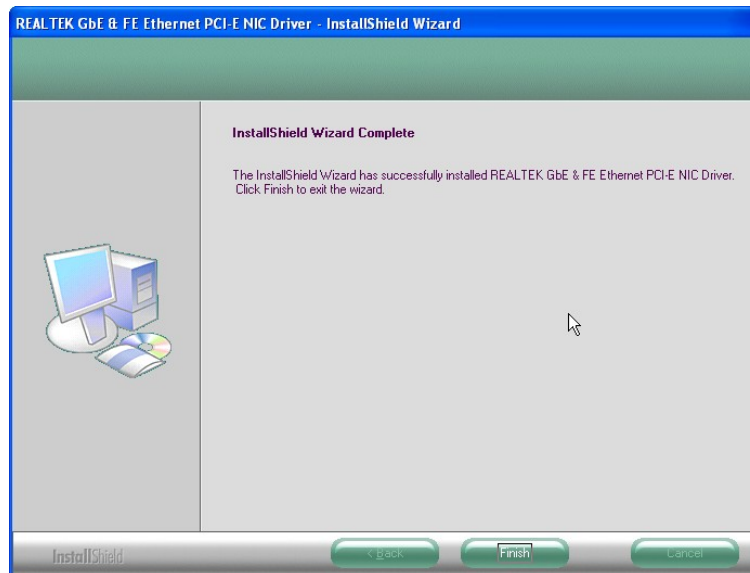

Figure 6-15: LAN Driver Installation Complete
Step 9: When the driver installation is complete, the screen in **Figure 6-15** appears.